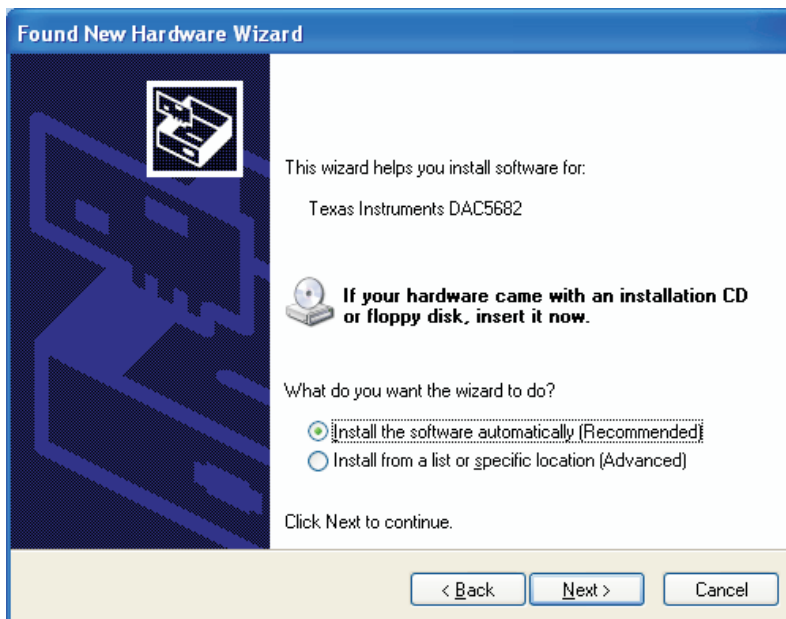

Figure 12. How should the Wizard Install the DAC5682 Software
2. When asked how do you want the wizard to install the software (Figure 12), select the *Install the software automatically (Recommended)* option.. Click *Next*.